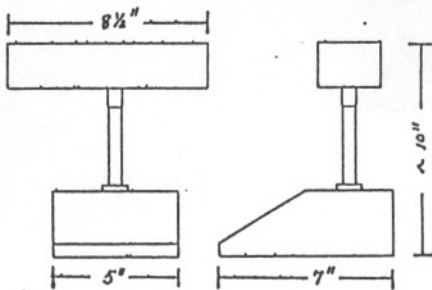

Figure 1. *Quantum Loop* dimensions.
The *Quantum Loop* measures approximately 10"(H) x 7"(D) x 8-1/2"(W) at its maximum points (see Figure 1). The loop head housing is constructed of black plexiglas and is connected to the black, sloped-front amplifier base by a chromed tube pedestal. The amplifier is a two-stage, balanced input/unbalanced output design with low-noise JFETs in the first stage and a low-noise MOSFET in the second; both stages are arranged in a common-source configuration.